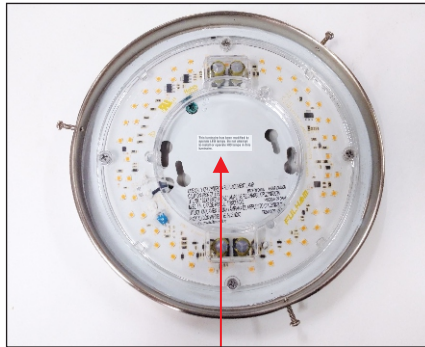

Figure 5
5. Place the provided Retrofit Label (E) on the inner areas of the luminaire where DirectAC Engine (A) was just installed. Label must be clearly visible and should not be obscured by line voltage cables. See figure 5 and Illustration 1.
6. Completed assembly should look like figure 5.